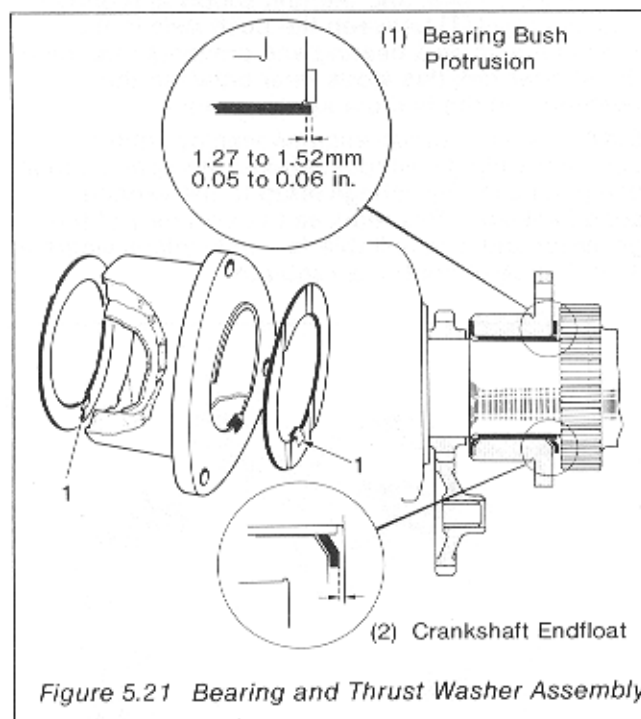

Figure 5.21 Bearing and Thrust Washer Assembly
5.32 Ensure that the bearing bush at the gear end protrudes between 1.27 to 1.52 mm (0.05 to 0.06 in.) as shown in Figure 5.21(1). This assists in the correct positioning of the outer thrust washer when the crankshaft gearwheel is fitted. Do not exceed the maximum protrusion.
- (1) Fit timing cover backplate (if removed).
- (2) Fit the gear end main bearing housing making sure the oil hole is in line with the oil hole in the crankcase. This is simplified by aligning the small cut-away on the bearing housings outer flange with the raised dimple on the timing cover back plate.
- (3) Fit the crankshaft thrust washer making sure that the grooved sides are away from the bearing housing and their tongues located in their respective grooves Figure 5.21 (1). Place a light smear of grease on the back of the thrust washer to hold it in position.
- (4) Check that the crankshaft journal bearing surfaces and oil holes are clean. Place a small quantity of lubricating oil in the gear end bearing and on the crankshaft journal and insert the crankshaft. Take care not to damage the bearing surface whilst entering the shaft. On the PH2 engine ensure that the intermediate main bearing housing is correctly assembled on the crankshaft with the side marked TOP towards the flywheel end.
- (5) Apply a small quantity of lubricating oil to the flywheel end main bearing and crankshaft journal and fit the main bearing housing assembly. Fit an oil seal sleeve to avoid damage to the oil seal when entering over the crankshaft. Tighten down the five securing bolts diagonally.
- (6) With a SAE5 bellhousing fitted, ensure that the oil seal and its bearing face are serviceable. Fit a new gearwheel retaining plate seal and a new sealing washer to the retaining plate bolt.
- (7) Replace the balance weights in their original positions as noted in Paragraph 5.24(6) and torque load the weight securing bolts to 159Nm (117 lbf ft.) for PH1 and 267Nm (197 lbf ft.) for PH2. If new weights are fitted they must be balanced to within 7g (0.25 oz) for PH1 and 14g (0.5 oz) for PH2.
- (8) Fit the intermediate main bearing housing locking screw on the PH2 engine and tighten down.
5.38 Using a set of feeler gauges check the crankshaft endfloat by measuring between the thrust washer and inner face of the gear as shown in Figure 5.21(2). The endfloat should not exceed 0.63 mm (0.025 in.). The endfloat when new should be 0.20 to 0.050 mm (0.008 to 0.020 in.).